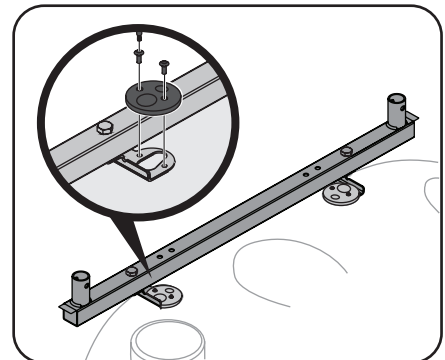

Figure 3-11
4. Use the Torx Tool (727-05140) to install the 4 T30 Torx Screws removed in step 2 (not included in hardware pack) to install the support assembly to the rear of the tractor as shown in Figure 3-11.